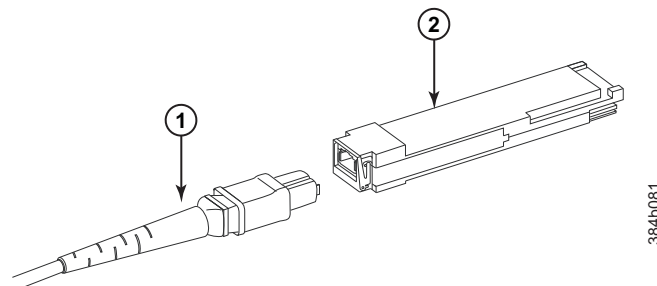
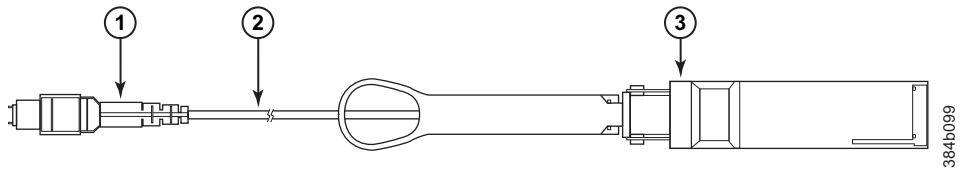

Figure 48. MTP cable and transceiver
Figure 49. 2 km QSFP with integrated cable
Figure 48 and Figure 49 on page 106 illustrate two types of MTP cables and transceivers.
Figure 48 shows a separate MTP cable and transceiver. The transceiver inserts into the blade port connector and the cable plugs into a QSFP on the other end of the ICL.
Figure 49 on page 106 shows a 2 km LWL QSFP transceiver with integrated MTP cable. The transceiver inserts into the blade port connector and the integrated cable plugs into: a QSFP on the other end of the ICL, a patch panel, or a patch cable.
A third type of transceiver (not illustrated) has a pull-tab to aid in removing the transceiver from the port connector (similar to the transceiver portion **3** of Figure 49), but has a separate MTP cable that plugs into the transceiver.
- An off-the-shelf MTP cable up to 100 meters can be used as an ICL cable when using the standard SWL optics. The 2 km QSFP with LWL optics (see Figure 49 on page 106) has an integrated 3 meter single-mode pigtail with a male MTP connector for connectivity to a patch panel or female terminated MTP patch cable to achieve up to 2 km distances. See "Using Brocade 2 km LWL QSFPs" on page 112 for more information.
See "Installing a QSFP transceiver and cable" on page 107 for installing the QSFP transceivers. Depending upon the type, the transceivers and cables are either separate or integrated into a single unit. Figure 48 on page 105 and Figure 49 on page 106 show two different types of QSFP transceivers.
- Figure 48 on page 105 shows a separate MTP cable and transceiver. The transceiver inserts into the blade port connector and the cable plugs into a QSFP on the other end of the ICL.
- Figure 49 on page 106 shows a 2 km LWL QSFP transceiver with integrated MTP cable. The transceiver inserts into the blade port connector and the integrated cable plugs into: a QSFP on the other end of the ICL, a patch panel, or a patch cable.
The Brocade 2 km LWL QSFP (see Figure 49 on page 106) is a hot-swappable, low-voltage (3.3 V) digital diagnostic optical transceiver that supports high-speed serial links over parallel single-mode optical fibers at signaling rates up to 4×14.025 Gbps. The QSFP is integrated with a 3-meter ribbon fiber cable with a male MTP 1 x 12 connector. The QSFP supports 2 km link length on parallel single-mode fiber.
- Connect the 3 meter integrated single mode transceiver cable (Figure 49 on page 106) directly to key-up/key-up MPO/MTP female couplers in a patch panel or MTP female connectors on a patch cable.